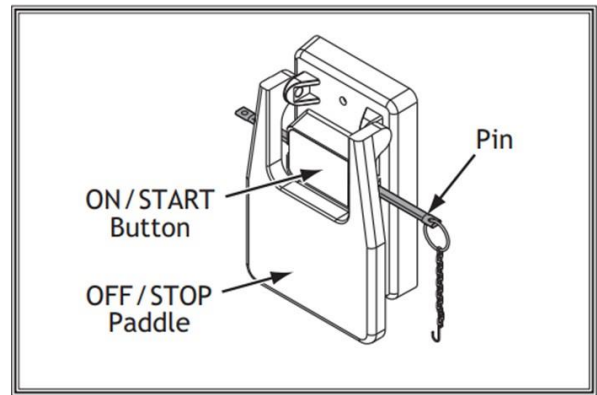

Figure 29: Lock-out function and pin.
- 1 - Fit the 4" dust hose on the dust port, please refer to figure29, and fasten in place with the hose clamp.
- 4 - Insert the lock-out pin (disabling the machine) through the green ON/START button (see figure29).